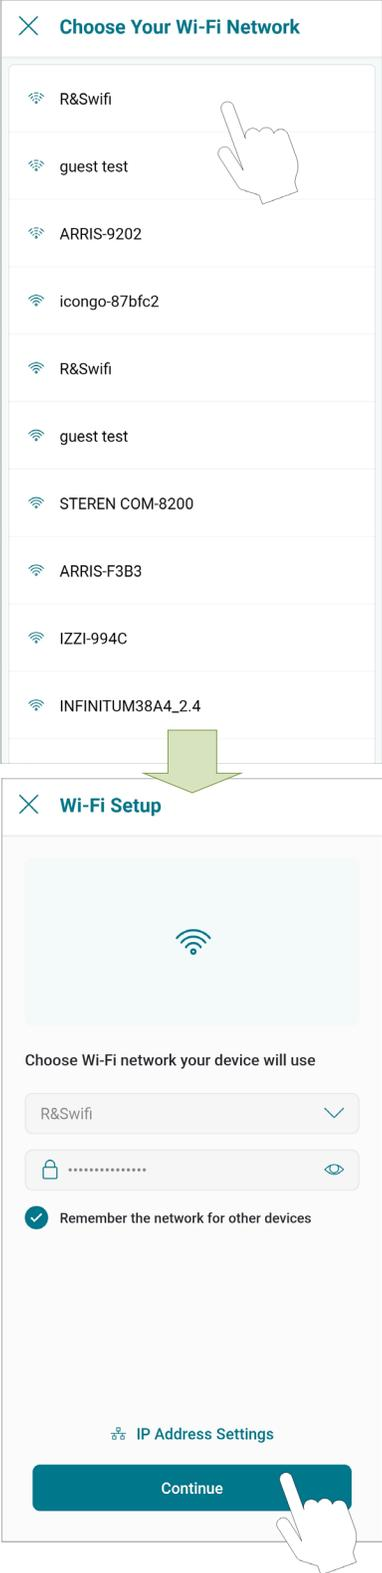

Figure 77. Wi-Fi Setup
5. The "Wi-Fi setup" screen will appear. Select or enter the Wi-Fi network you want your unit to be connected to and enter the network password. See Figure 77.